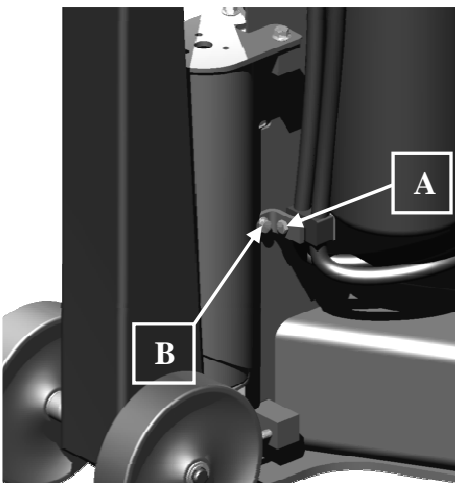

Figure 3
4. Open the left and right outer covers by releasing the latches holding the covers closed. Remove the bolts shown in Figure 3 using a 1/2" wrench and/or socket. The hose clamp secured by bolt A can be discarded.